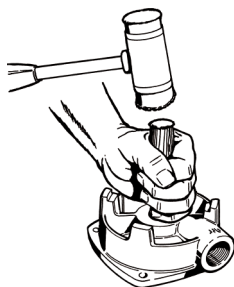

Figure 5-1
2. Remove the four (4) M6-1 X 80mm bolts (#19) from the cover (#2).
8. To remove the seat (#125). Refer to Figure 5-1. Place the motor bracket face down on a clean flat surface. Look into the opening in the center of the motor bracket, and you will see a portion of the seat. Insert the 11/16" dowel and, very gently, tap the seat until it drops out. Care must be taken with the seat. It is often a brittle material and is prone to breakage. **It is recommended that a new replacement seat be installed during reassembly.**